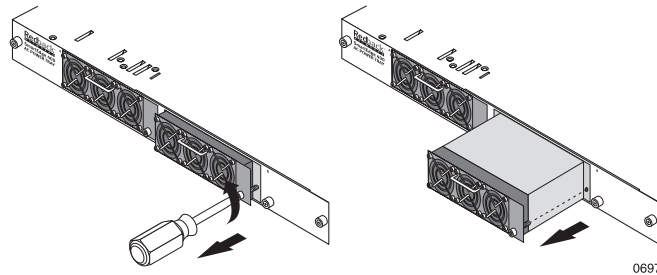

Figure 39 Removing an AC Power Supply
3. Remove the AC power supply; see Figure 39